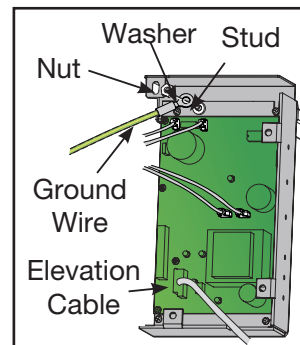

Figure 9
- B. Disconnect the elevation motor cable from the lower board. See Figure 9.
- D. Connect the elevation motor cable into the lower board. See Figure 9.